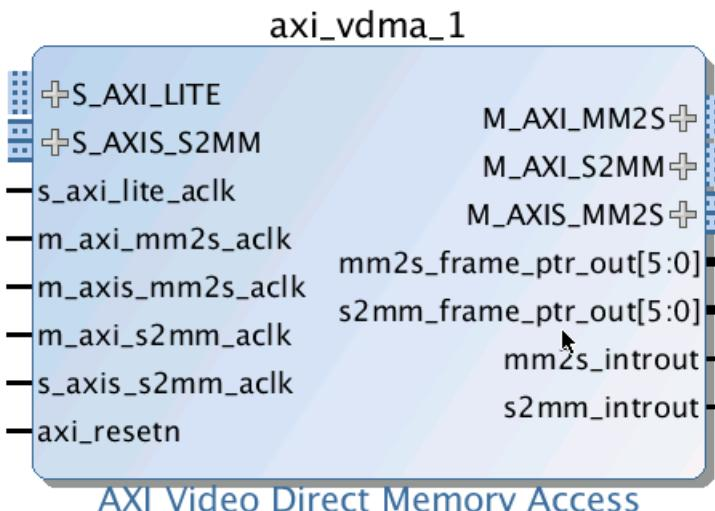

Figure 46: `axi_vdma_1` Block
2. In the IP search, find the **AXI Video Direct Memory Access** core, and double-click it to add the IP to the diagram (Figure 46).